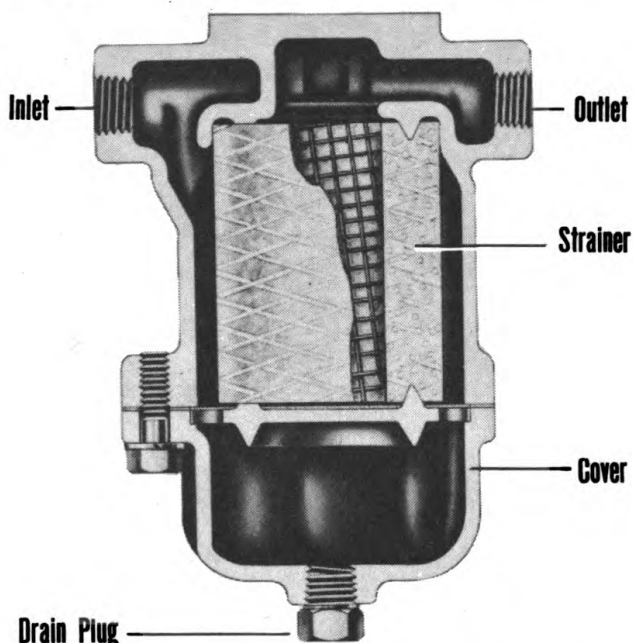

Figure 31—Cross Section of Air Filter.
5. Air Filter. (See figure 31.)